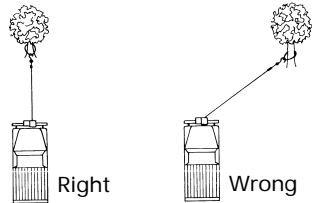

Figure 6
12. AVOID CONTINUOUS PULLS FROM EXTREME ANGLES as this will cause the wire rope to pile up at one end of the drum (Figure 6). This can jam the wire rope in the winch, causing damage to the rope or the winch.